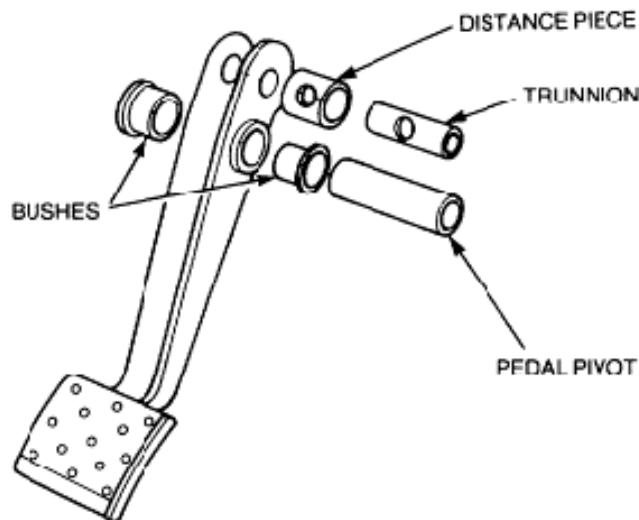

Figure 46 Clutch Pedal Exploded View
- o. Remove the trunnion, distance piece and bushes from the pedal (Figure 46). Discard the bushes.